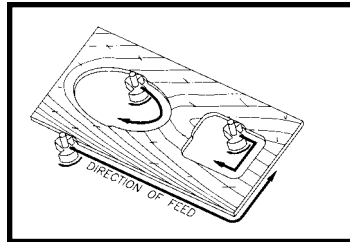

Fig. 8
**WARNING** Avoid "Climb Cutting" (cutting in direction opposite that shown in Fig. 8). "Climb-Cutting" increases the chance for loss of control resulting in possible personal injury. When "Climb-Cutting" is required (backing around a corner), exercise extreme caution to maintain control of router.